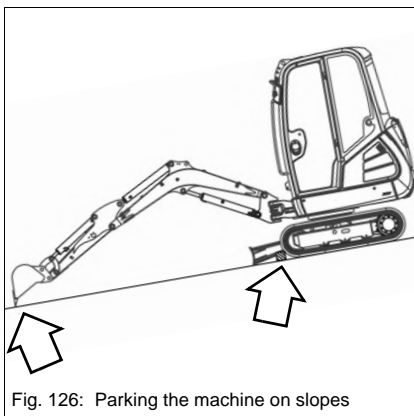

Fig. 126: Parking the machine on slopes
- Secure the tracks accordingly (chocks, blocks, for example) as shown in Fig. 126.